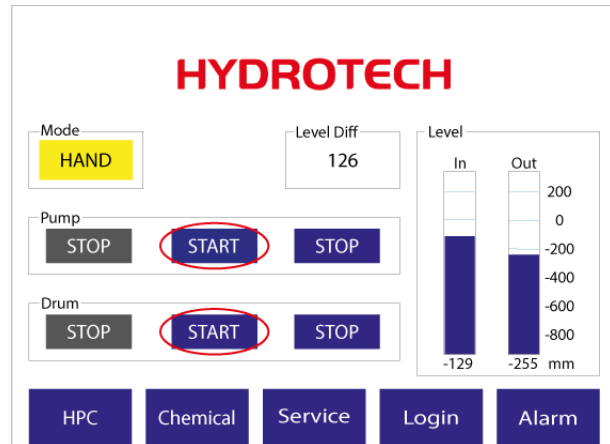
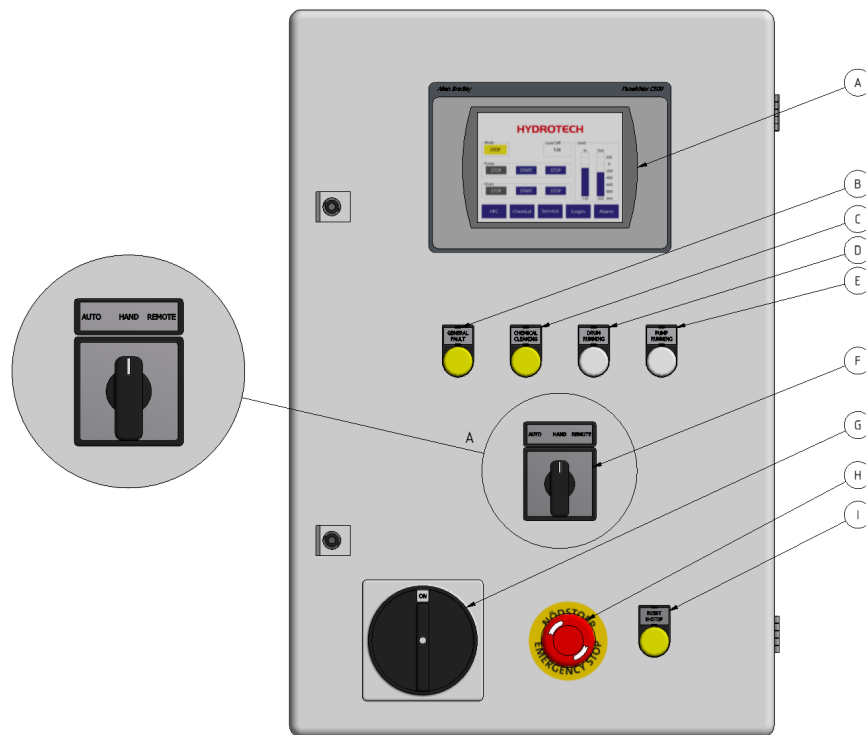

Figure 4.1 Main menu on electrical cabinet operator panel.
Figure 4.2 Front side of electrical cabinet.
2. Set the mode selector to the HAND position (see F in Figure 4.2)
3. Set the main power switch to the ON (I) position (see I in Figure 4.2)
4. Start drum rotation on the operator panel main menu (see Figure 4.1 and Figure 4.2).
6. When the water level inside the filter tank is above the pump suction pipe (or, if a CRK or MTR pump has been installed, the pump), the pump must be started by pressing “Start” on the operator panel main menu (see Figure 4.1). NOTE Also read section 2.7 (Safety instructions).
Turn the mode selector to select the appropriate operating mode (see Figure 4.2, detail F).
1. Turn the mode selector shown in Figure 4.2 to the HAND position.